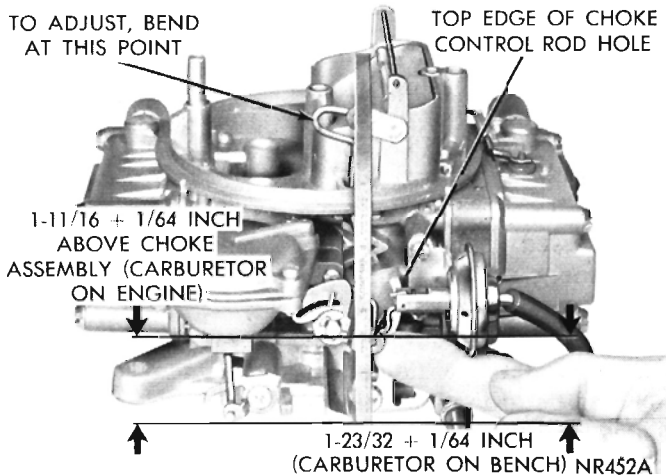

Fig. 18—Qualifying Choke Control Lever
- (1) Open the throttle to mid-position.
- (2) Close the choke valve by slight pressure on choke control lever.
- (3) The top of choke rod hole in control lever should be $1-11/16 \pm 1/64$ inch above choke assembly (carburetor on engine) or $1-23/32 \pm 1/64$ inch above carburetor base (Carburetor on bench) (Fig. 18).
- (4) Adjust if necessary by bending choke shaft rod at point indicated.